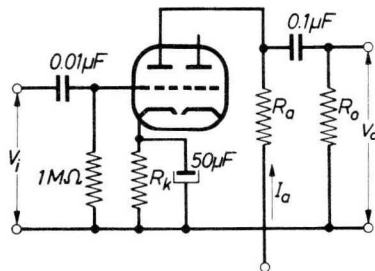

Fig.1
A.F. amplifier Fig.1 see page 8